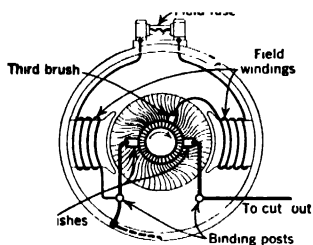

FIG. 15a.—Third-brush Generator. (Northeast.)
(3) Another type of control is the *third-brush regulation* (Figs. 15a and 15d). This regulation increases or decreases the current by weakening or strengthening the magnetic field of the generator.